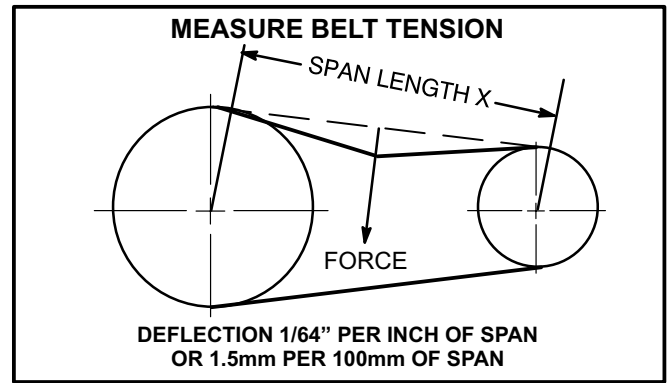

FIGURE 21
- 1- Measure span length X. See figure 21.
- 2- Apply perpendicular force to center of span (X) with enough pressure to deflect belt $1/64"$ for every inch of span length or 1.5mm per 100mm of span length.